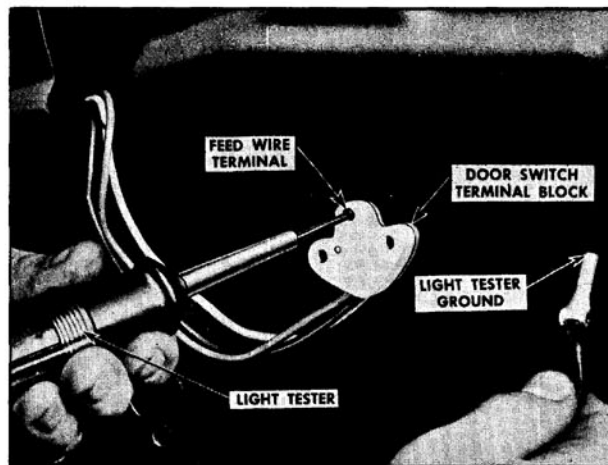

Fig. 16-410 Checking at Window Switch
1. Connect one light tester lead to feed terminal of switch block and ground other tester lead to body metal. (Fig. 16-410)